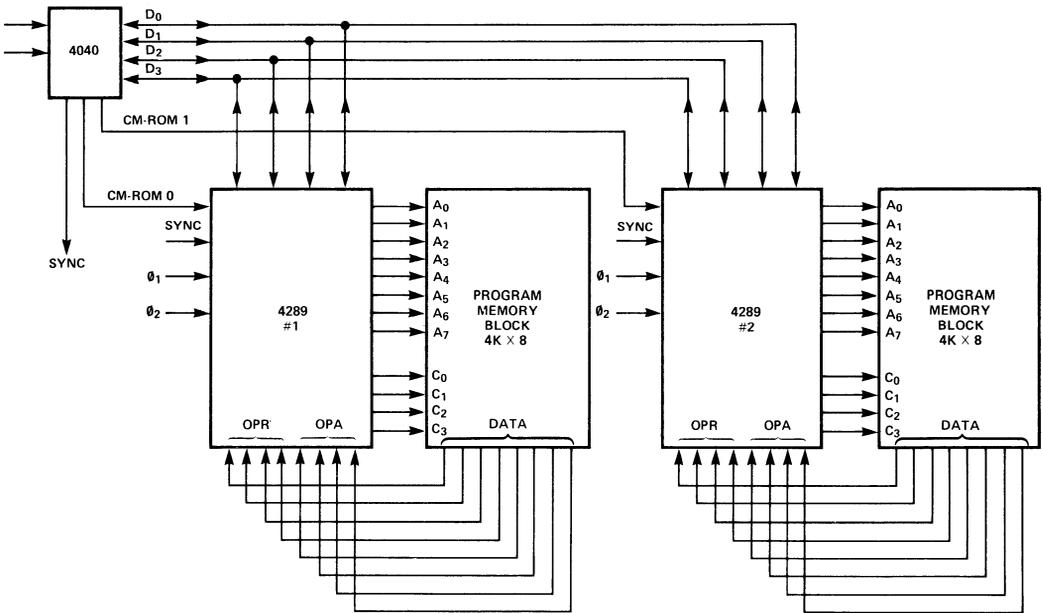

Figure 3. Two Memory Bank System.
- Two Memory Bank System (Figure 3). Two 4289s are used in this 4040 system giving addressability to a full 8K bytes of PROM memory. In this case each 4289 is controlled from a separate CM-ROM control signal. The  $CM-ROM_0$  and  $CM-ROM_1$  lines are generated by the 4040. This system cannot be implemented with the 4004.